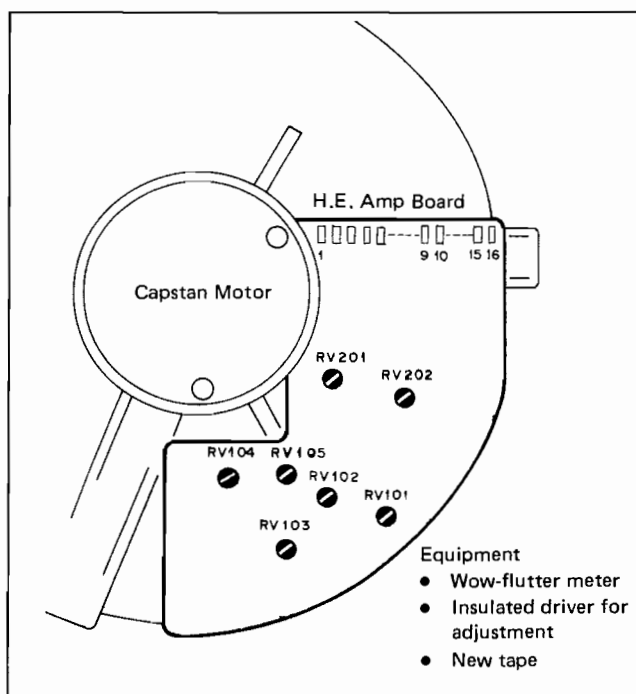

Fig. 6-1.
- (1) Connect the Wow-flutter Input to IC40 (LS04) pin 8 on the SERVO board (Grounding point is DE ϕ or IC40 (LS04) pin 7).
- (2) Set to REC (ADVANCE REC).
- (3) Adjust RV102, RV202, RV101, RV201 and RV104 on the DRV1 board and RV105 on the H.E. Amp board as shown in Fig. 6-1 so that the flutter reading on the meter is minimum (0.015% or less (UWTD, rms)). (In this case, the waveform balance in 6-1-2. may be lost.)